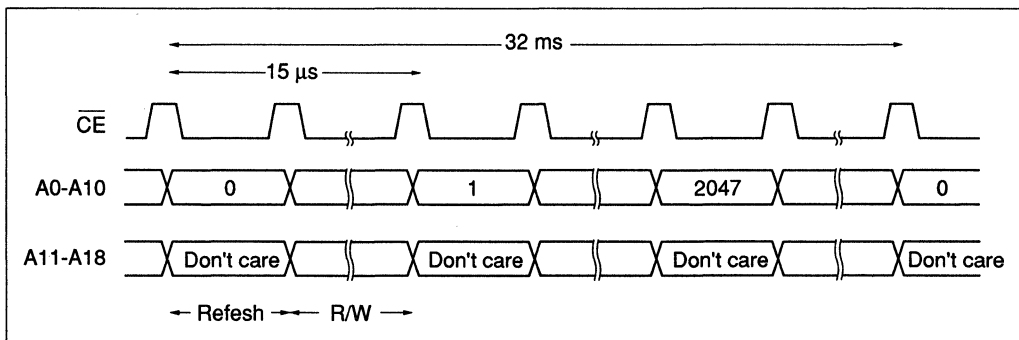

Figure 2-4 Address Refresh
**Address refresh:** This mode refreshes data by inputting row addresses 0-2047 through pins A0-A10 in sequence every 32 ms. Figure 2-4 shows the timing chart of distributed refresh.